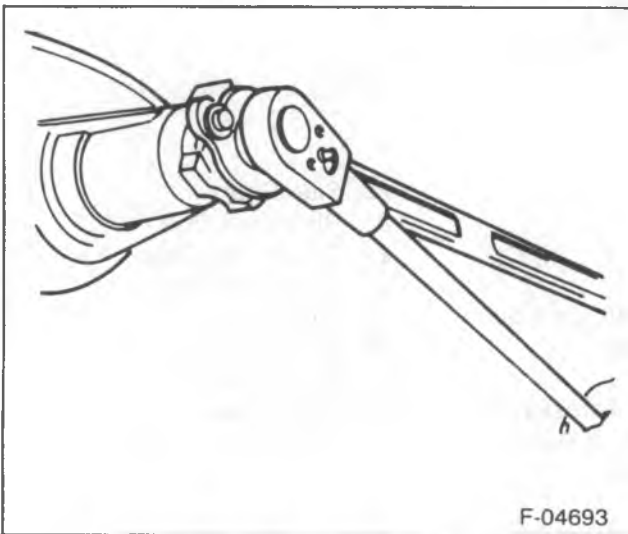

Figure 5—Pinion Flange Nut Removal
13. Pinion flange nut (35) and washer (36) using J 8614-01 to hold the pinion flange (figure 5).